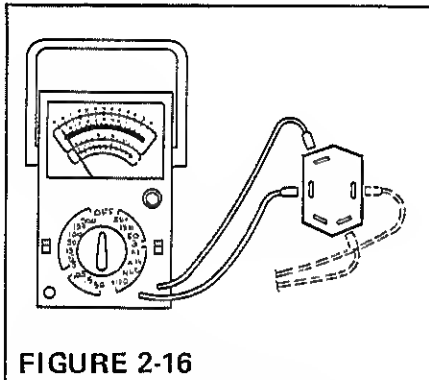

FIGURE 2-16
When switch is in down (OFF) position, check continuity between the middle terminal and top terminal on same side. See Figure 2-16. Resistance should be zero.
When switch is in top (ON) position, check continuity between the two middle terminals and bottom terminals on same side. See Figure 2-16. Resistance should be zero.